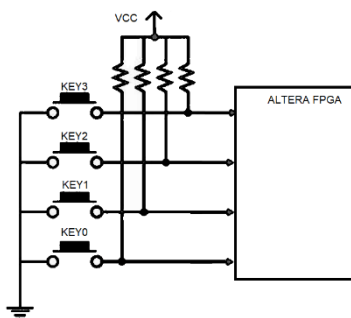

Figure 10.2: FPGA development board buttons used to operate the stopwatch.
Figure 10.2 shows the schematic of the buttons (key1 ...key4) on the C5G development board that you will use to control the operation of the stopwatch; the S1 and S2 buttons in Figure 10.1. The buttons shown in the schematic are in their nominal position – not being pressed by a user. You should note that the contacts of each button (open circles) are disconnected. This leaves the right side of the button connected to VCC through a resistor as well as the Altera FPGA. This resistor is called a pull-up resistor, and as its name implies, pulls the voltage on the right side of the push button up to VCC – logic 1. When a button is pressed, the contacts are connected and the right side of the push button is connected directly to ground, forcing the voltage on the respective FPGA pin to logic 0.
To summarize the operation of the buttons shown in Figure 10.2. When a user presses a button, the value on the respective FPGA pin is logic 0. When a button is not pressed, the logic level of the corresponding FPGA pin is logic 1.